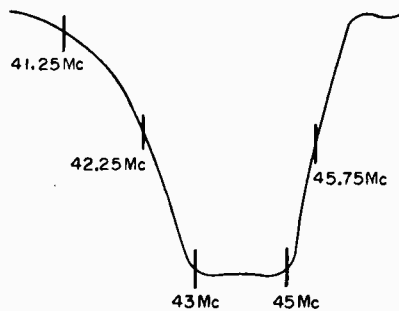

Fig. 8 I.F. Response Curve
8. Connect the IF sweep generator to point "D" as shown on Figs. 17 and 14. The observed wave form should be as shown in Fig. 8 with markers as shown. A tilt in the response curve can be corrected by adjusting the primary (bottom slug) of the 3rd IF transformer (T302). To correct